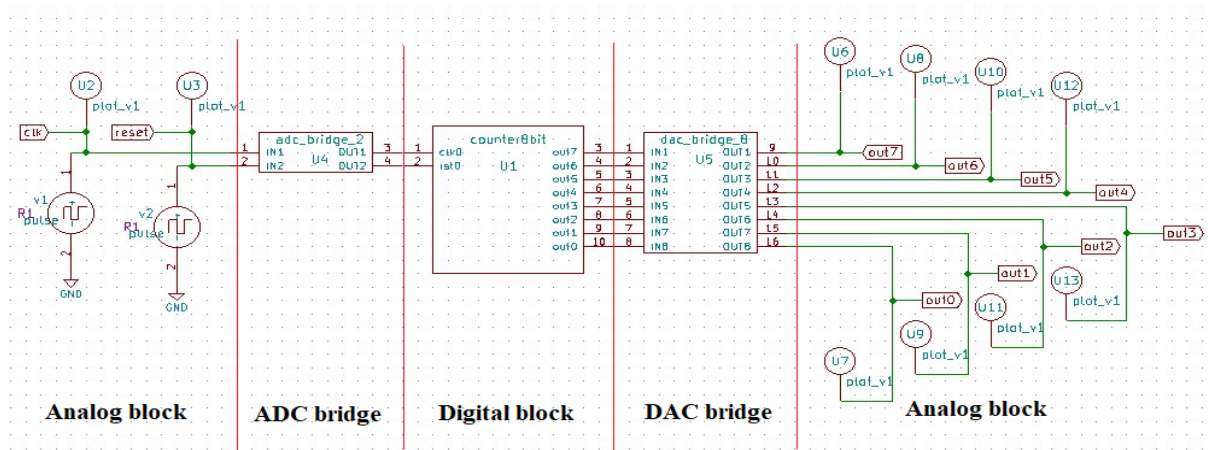

Figure 11.31: Example of a 8 bit Counter circuit in eSim
6. Now create the schematic as shown in Fig. 11.31, annotate, perform electrical rules